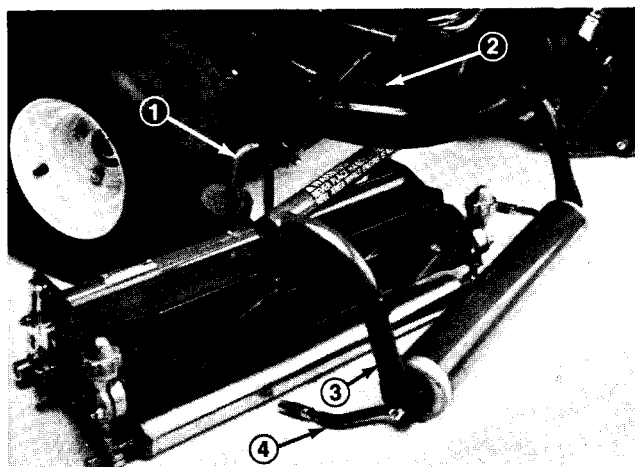

Figure 21
4. Slide cutting unit out from under pull frame, disengaging the lift arm from the lift bail (Fig. 21).